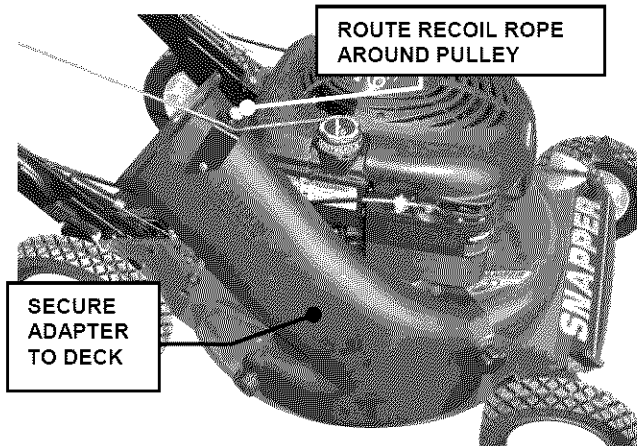

FIGURE 2.12
STEP 2: Install grass bag adapter to the deck in place of recycling cover, making sure that: 1) hole on outside front of adapter fits onto stud in front of discharge opening where front of recycling cover was originally installed, 2) slot on top of adapter slips under restraining nut on top of deck (under right front corner of engine), and 3) slot on bottom rear of adapter slips onto stud behind rear of discharge opening, where rear of recycling cover was originally secured. See Figure 2.12. Install internal/external tooth lock washers and knob nuts on studs and tighten securely.
STEP 3: Route recoil rope around outside of rope guide pulley. See Figure 2.12. (NOTE: Recoil rope may need to be slackened. Refer to "Handle Assembly".)